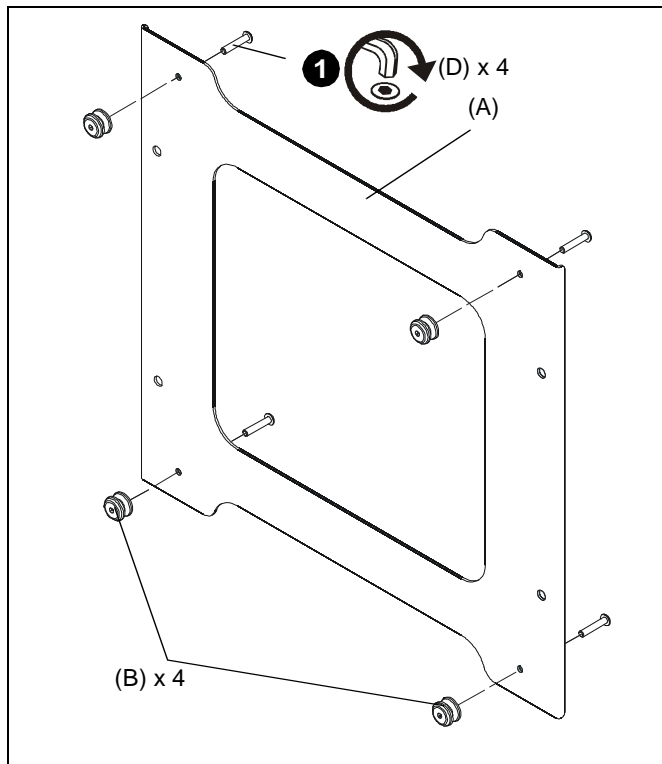

Figure 1
1. Attach mounting buttons (B) to interface bracket (A) using four #10-24 x 1/2" button head cap screws (D) and a 1/8" hex key (G). (See Figure 1)